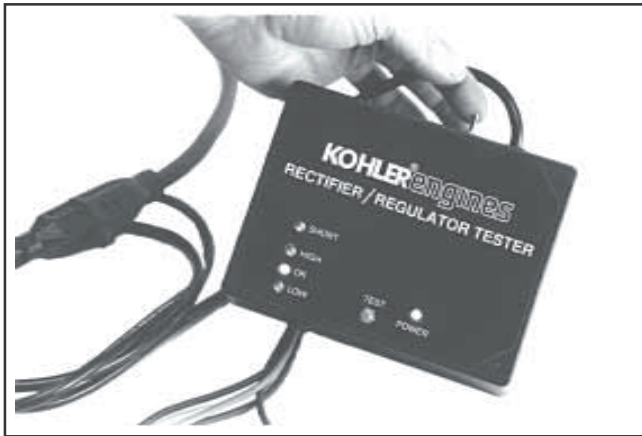

Figure 7-12. Powered Tester.
5. Plug the tester into the proper AC outlet/power for tester being used. Turn on the power switch. The POWER light should be illuminated and one of the four status lights may be on as well. See Figure 7-12. This **does not** represent the condition of the part.
3. Plug the tester into the proper AC outlet/power for tester being used. Turn on the power switch. See Figure 7-12. The POWER light should be illuminated and one of the four status lights may be on as well. This **does not** represent the condition of the part.